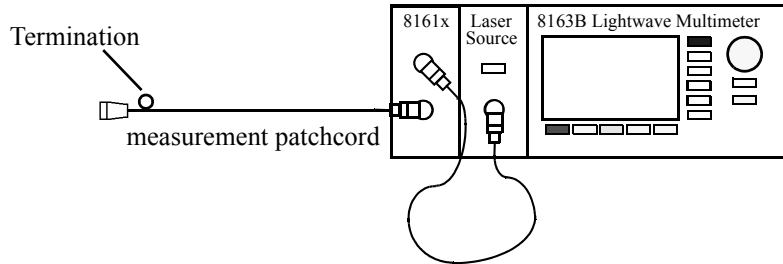

Figure 118 Measuring the Termination Parameter - External Source
- 1 Making sure all the connectors are clean, set up the instrument as shown in Figure 118 on page -196 if you are using an External Source.